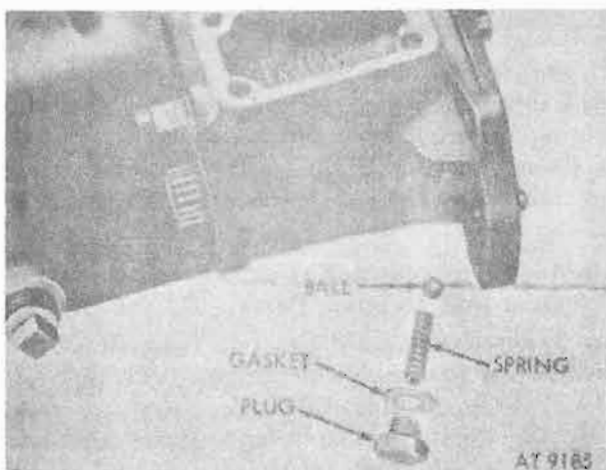

Figure 8-52. Clutch shifter fork detent assembly.
b. Remove detent plug, gasket, spring and ball from transmission bore (fig. 8-52).
h. Position detent parts in detent bore in order shown (refer to fig. 8-52) and torque screws 15-20 lb-ft. Apply sealer to threads before installation.